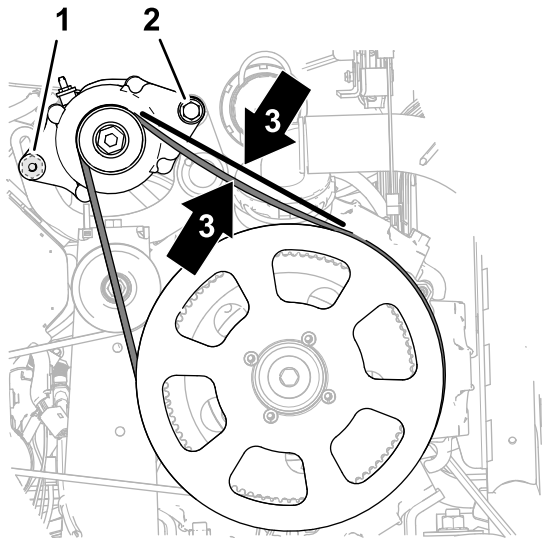

Figure 230
- Rotate the alternator (Figure 230) up to increase tension on the belt until you measure belt 9.5 mm (3/8 inch) of belt deflection when you apply 4.5 kg (10 lb) halfway between the alternator pulley and drive pulley 279 mm (11 inch).